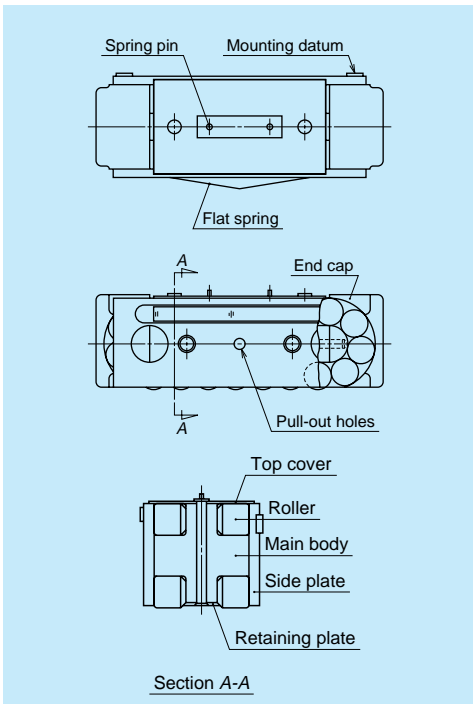

Fig. III-3-1 Roller pack
A roller pack comprises a main body which supports load from the guide way block via two rows of rollers; an end cap which change the direction of the re-circulation of rollers at the end of the main body; a side plate which guides the rollers. (Fig. III-3-1). Roller pack is one of linear rolling guide of which rollers are allowed to re-circulate infinitely for free from restriction of running range (stroke).
- In case of heavy load, the roller pack could not be pulled out by the above method. Hook a tool to the pull-out hole (Fig. III-3.1) on the side plate of the roller pack, and pull out the roller pack.